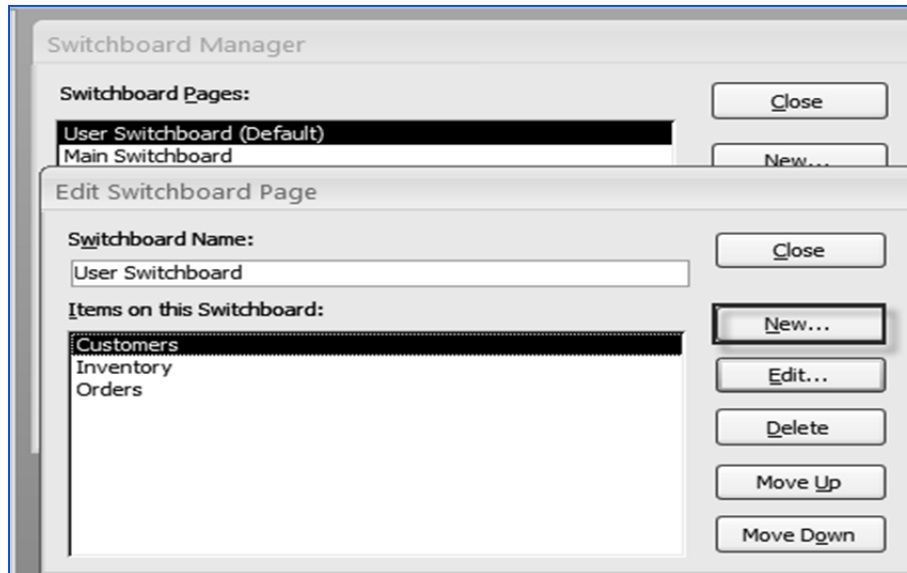

Fig. 4.3.24: Create a new button
6. *Edit Switchboard Page* appears. Click *New* to create a *button*, as shown in Fig. 4.3.24.